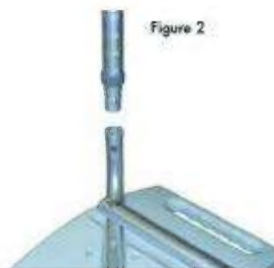

Figure 2
5. Attach backrest to seat by inserting both back support tubes into the back support receptacle on the seat. The brass push pins will snap out and lock the back support in place (Figure 2).